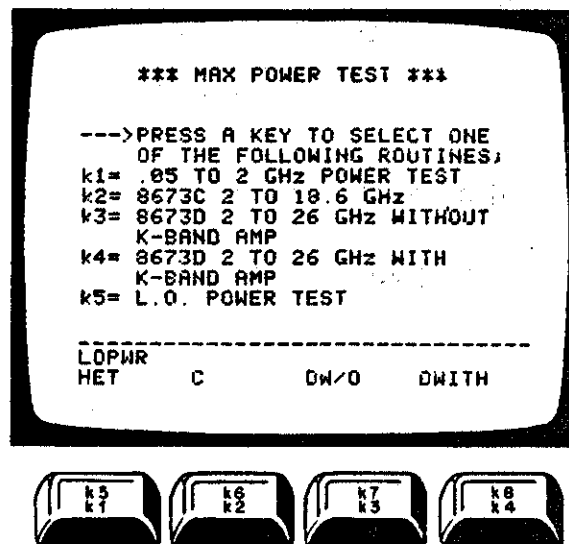

Figure 5-32. Maximum Power Menu
5. When the Utility Menu is displayed, press **k1** to select the Max Power Menu. A new menu will be displayed as in figure 5-32.